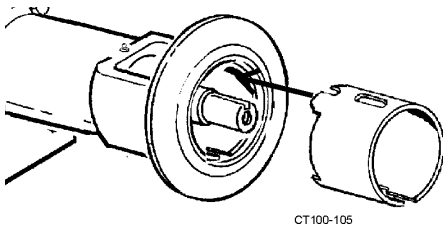

Figure 56 - Installing the Guard
9. (Pedestal Pump only) Install and position the seal guard (Figure 56).